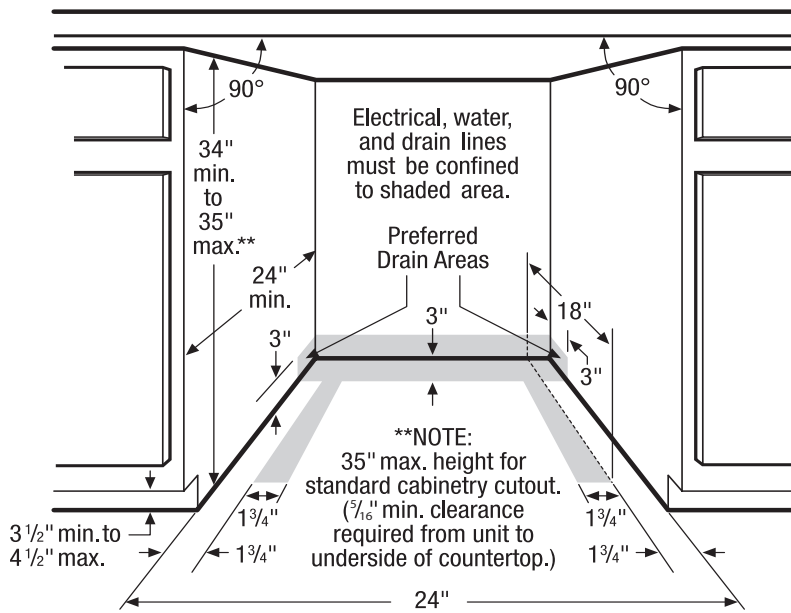

Figure 2
**IMPORTANT:** For proper operation and appearance of unit, cabinet opening should have dimensions as shown in Figure 2. If unit is to be placed in a corner, there must be at least a 2-inch side clearance to open door.
Electrical, water, and drain lines must be confined to shaded areas in Figure 2. Electric conductors, water, and drain could be damaged. Failure to follow these instructions could result in fire or electric shock.
1. Review dimensions in Figure 2 to locate dishwasher's drain, water, and electrical connections.
2. All utilities must be routed in shaded area in the Figure 2.
3. Cut access holes for the Electrical, Water and Drain hoses in the shaded areas as shown in Figure 2.